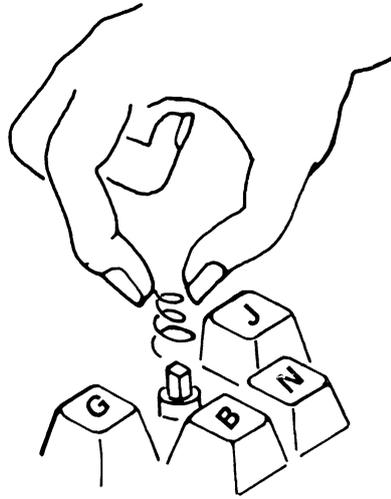

Fig. 2-10. Removing the key spring from the post.
- ☐ Call around to computer retailers to find keyboard springs for your keyboard. Lift off the keycap and then remove the spring from its post (Fig. 2-10). Replace the old spring with the new, and pop the keycap back on.